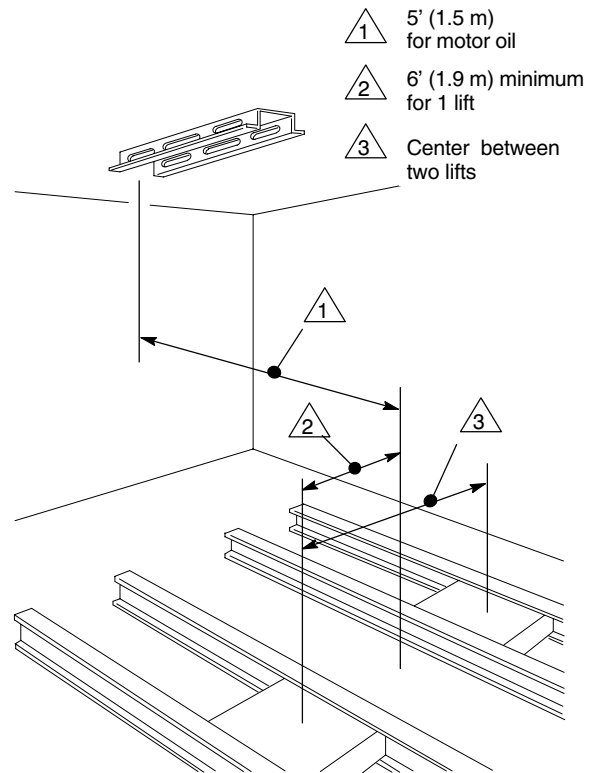

Fig. 2
- b. A reel bank mounted in a one-lift service bay should be at least 6 ft (1.9 m) from the center line of the lift. See Fig. 2.
- c. In a two-lift bay, mount the bank equal distance between the lifts. A bank of all motor oil reels should be about 5 ft (1.5 m) from the center of the lift, toward the front of the lift rails. See Fig. 2.